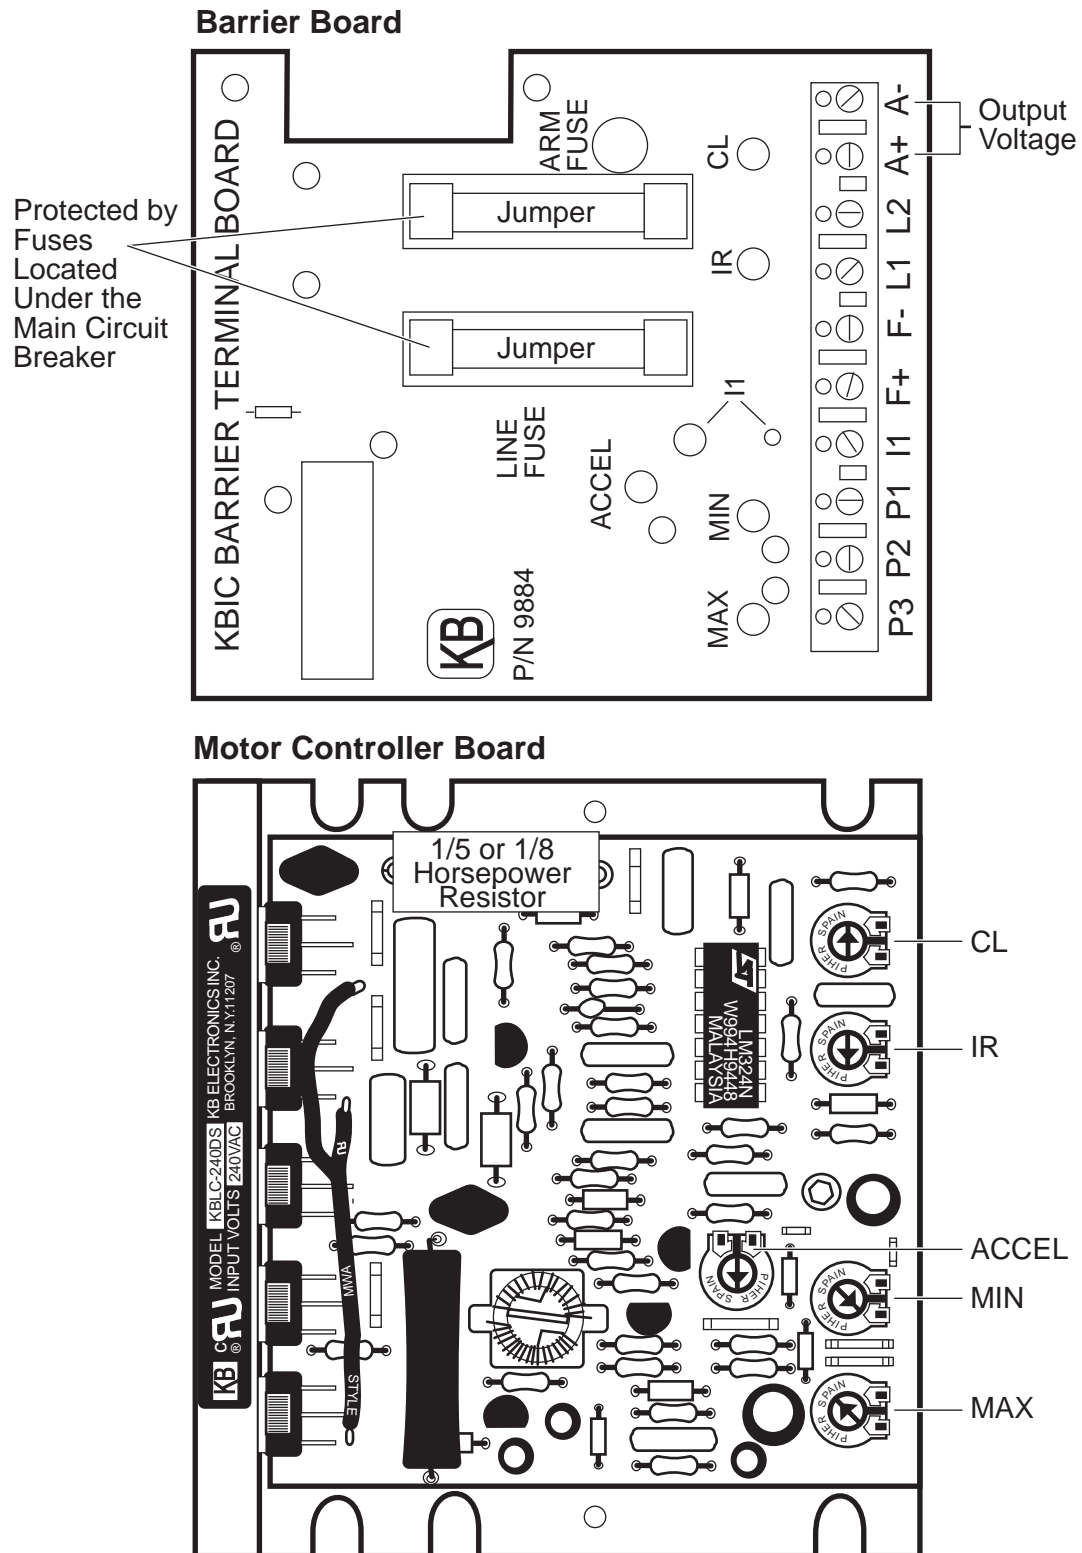

Figure 5-8: Barrier Board and Motor Controller Board Showing Default Setting
5. Locate the barrier board. You can set the potentiometers on the board through the openings on the barrier board. (See Figure 5-8.) Check the output voltage to the motor from terminals A+ and A- on the barrier. The output voltage (DC) should be between 80 and 90V. If it is too low or too high, adjust the MAX potentiometer accordingly.
*Note the location of the horsepower resistor in Figure 5-8. It should be a 0.1Ω resistor.*
10. The IR, CL, and ACC potentiometers are factory set. See Figure 5-8 for typical settings.